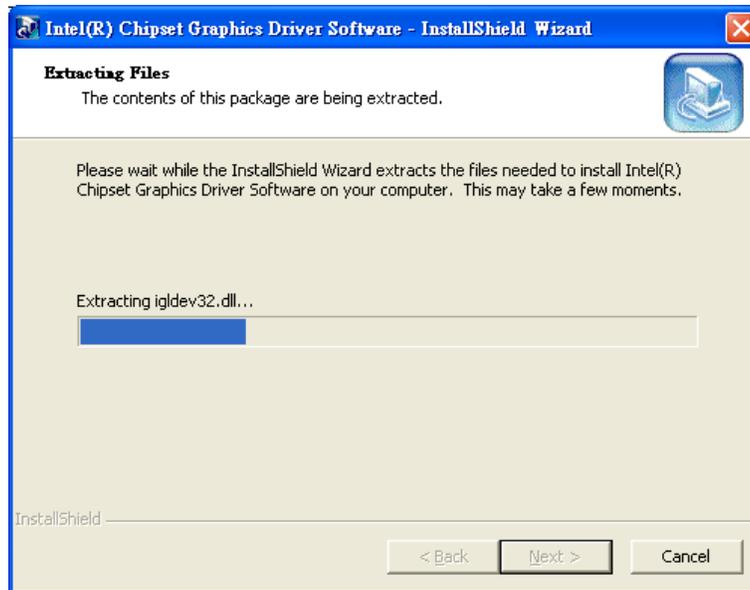

Figure 6-14: InstallShield Wizard Extracting Files
Step 4: Read the Readme file information and click **NEXT** to begin extracting files (Figure 6-14).